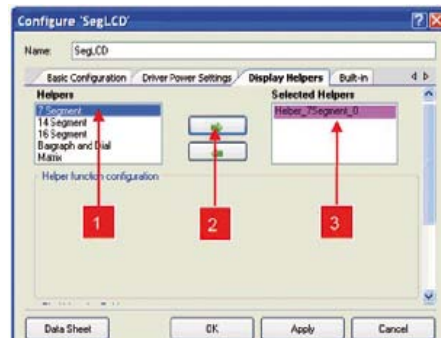
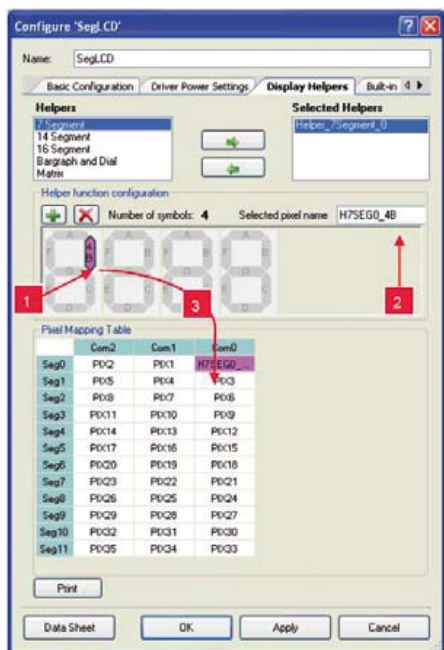

Figure 3. Display Helpers.
Figure 4. Adding digits to the Helper.
The parameters in the Display Helpers tab are shown in **Figure 3**. For this example you will only need one of the helpers, the 7 Segment. First select 7 Segment (1). Then click on the right arrow (2) and the Helper_7Segment_0 is seen in the Selected Helpers field. Finally, click on Helper_7Segment_0 (3) and the window will expand, which is shown in **Figure 4**.
By pressing the green plus button three times you obtain the four seven-segment displays show in Figure 4. The next steps are to select a pixel, rename it, and assign it to the pixel mapping table. These steps are indicated in the screendump. First click on segment B of the fourth symbol referring to the LCD glass (1). In the selected pixel name field, you can name the pixel whatever you want (2). Drag and drop the selected pixel to the pixel mapping table below (3). Make sure that the pixel mapping matches your LCD's datasheet.